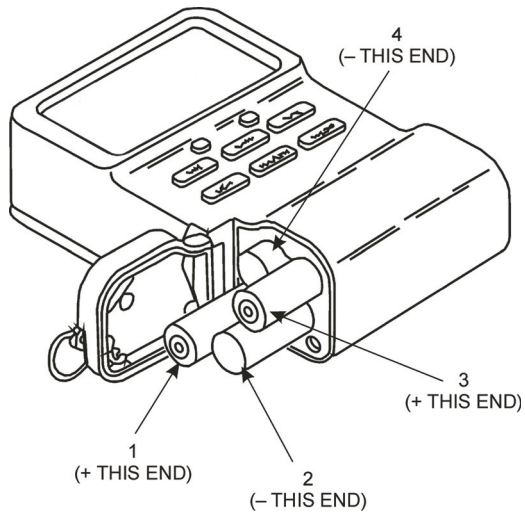

Figure 11 Location of the Batteries
- Install fresh batteries in the order shown in Figure 11.
Be sure to observe the polarity next to each of the four battery slots. The end of the battery facing out should match the slot's marked polarity, as shown in Figures 11 and 12.